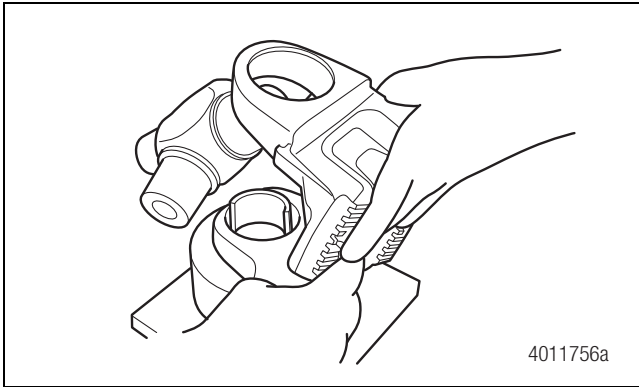

Figure 4.60
- Remove the bushing/bearing assembly and the half-round sleeves. Remove the cross from the drive flange. Figure 4.60.